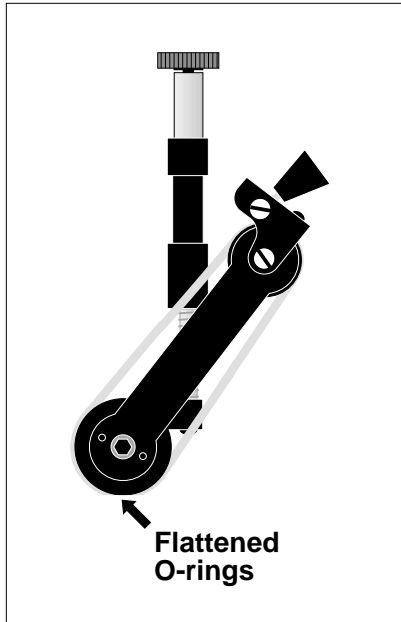

Figure 6-5. Advancing O-Ring Gate
- Advancing O-ring, or Standard O-ring: Flat areas along the O-rings (Figures 6-5 and 6-6, respectively).